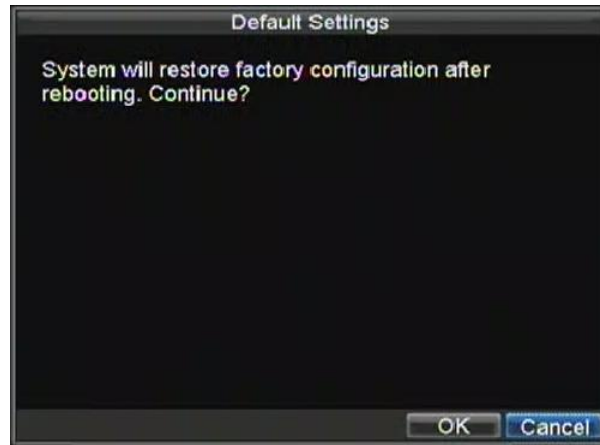

Figure 13. Default Settings Menu
1. Enter the Default Settings menu, shown in Figure 13 by clicking Menu > Maintenance > Default.